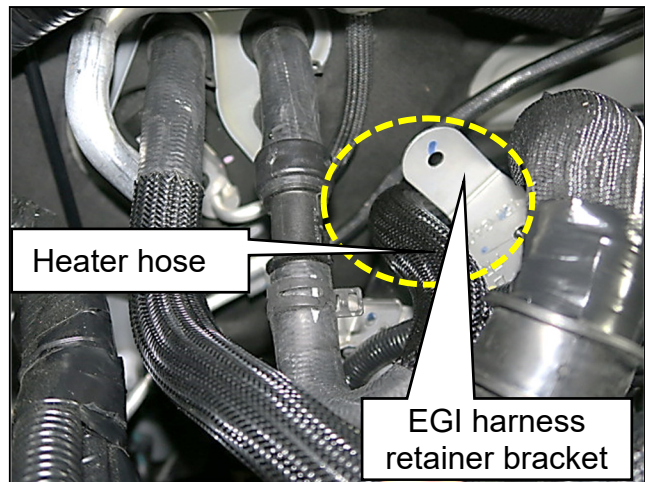

Figure 8
8. Carefully move the heater hose, shown in Figure 8, down and hook it behind the EGI harness retainer bracket to allow unobstructed access to the EGI harness.